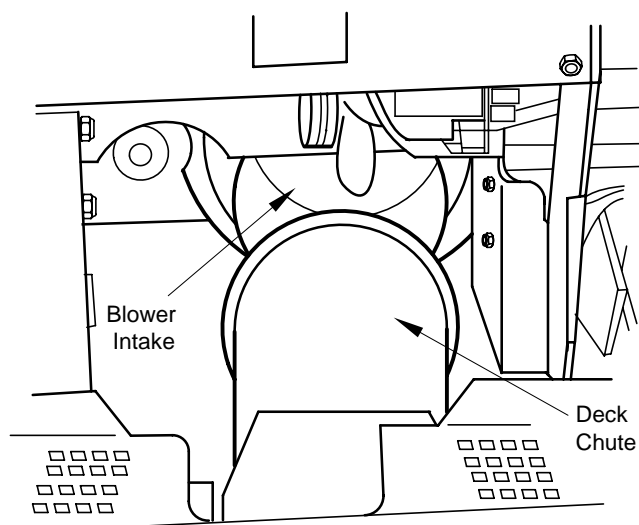

**Figure 4-18 Aligning Deck With Push Arms**
1. Align the shafts of the push arms with the mounting holes on the cutter deck (Figure 4-18). Be sure the cutter deck discharge chute and the drive shaft are arranged as shown in Figure 4-18.